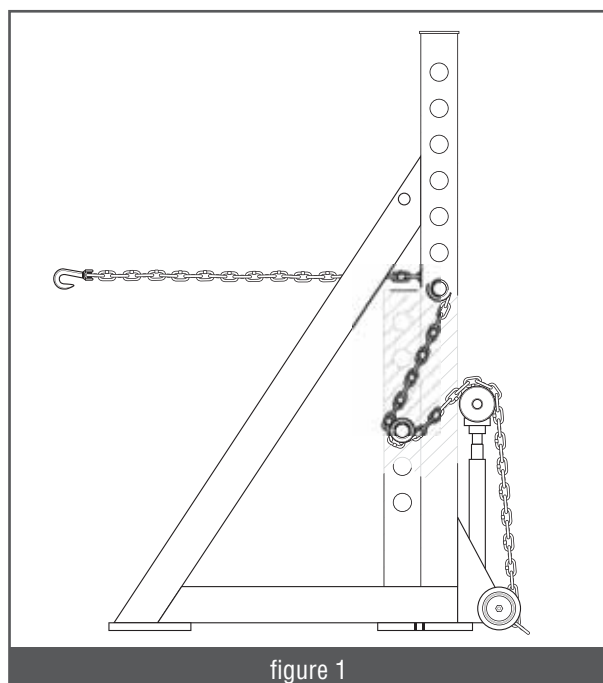

figure 1
- Adjust desired pulling angle replacing the collars by height (figure 1).